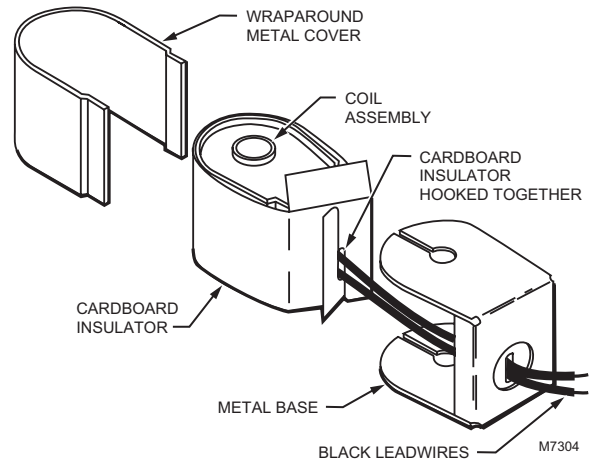

Fig. 15. Coil assembly, insulator, and cover.
7. Snap out the wraparound metal cover and remove the metal base (Fig. 15). Save these parts for the replacement coil.
8. Carefully unhook the cardboard insulator (Fig. 15) and remove it. Save the insulator for the replacement coil.
10. Wrap the cardboard insulator around the new coil assembly and carefully hook it together around the two black leadwires (Fig. 15).
11. Insert the two black leadwires through the opening in the metal base, and insert the new coil assembly into the metal base (Fig. 15).
12. Snap the wraparound metal cover into place around the new coil assembly (Fig. 15).